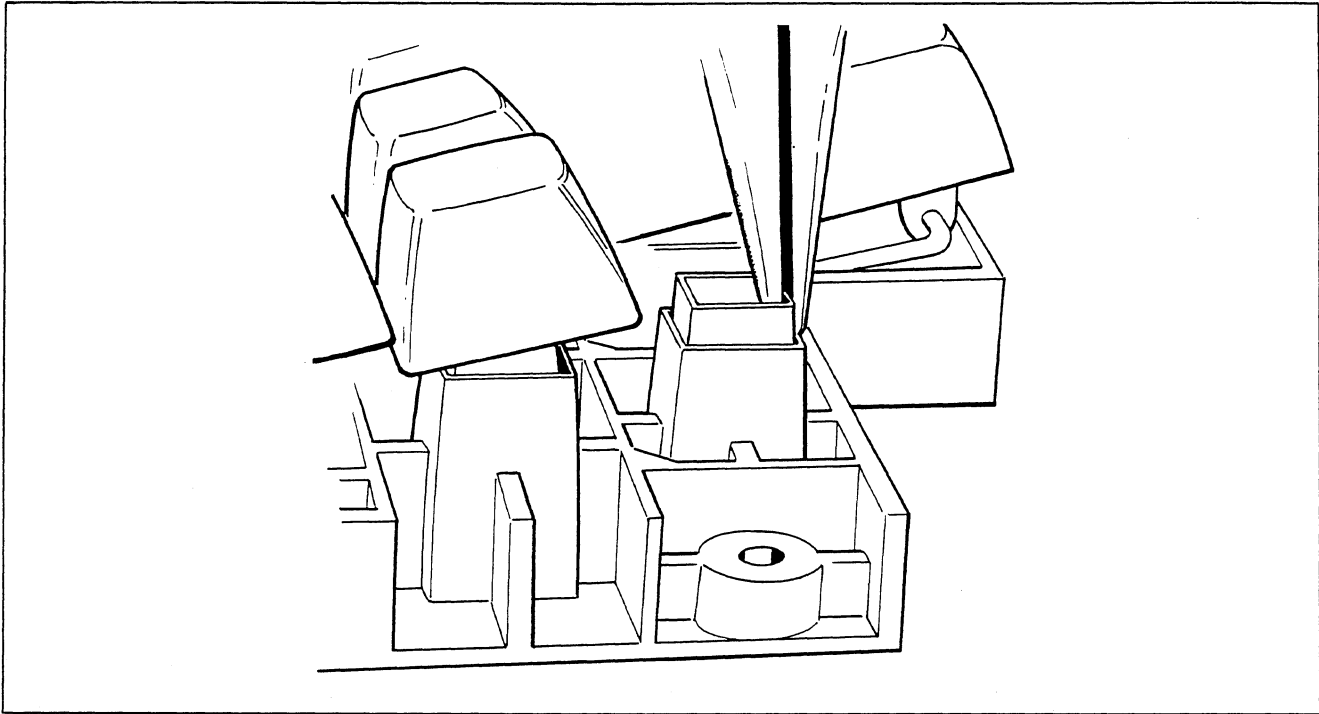

Figure 5-5.
- d. With the pliers, firmly grasp the plunger in the corner (see **figure 5-5**). Pull straight up with a firm pull.